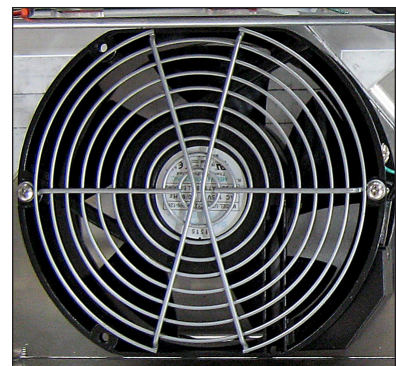

Figure 31: Display Fan
2. Use the Phillips head screwdriver to loosen the two fan mounting screws. Refer to **Figure 31**.